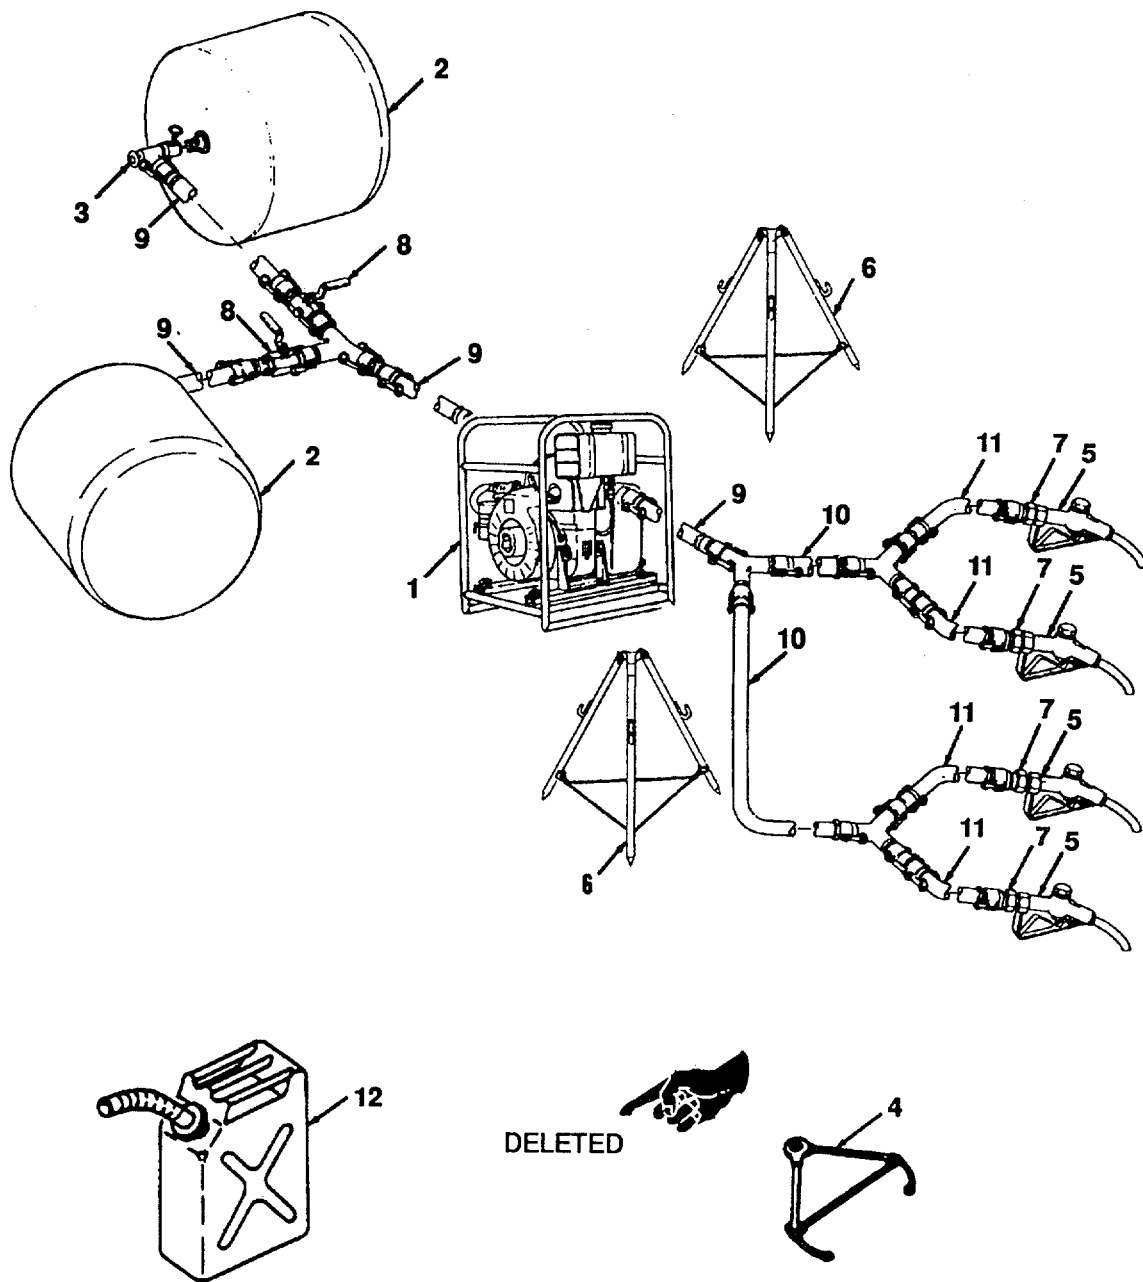

Figure 1-2. Location of Major Components.
1-10. LOCATION AND DESCRIPTION OF MAJOR COMPONENTS. The FAWPSS consists of the following major components shown on Figure 1-2.
1-12. THEORY OF OPERATIONS. The forward area water point supply system comprises a number of separate major components to store and dispense potable water. The principles of operation of each of these major components and how they work within the system are defined in the following paragraphs. (Refer to Figure 1-2.)
a. Potable Water Storage System. The FAWPSS uses two 500 gallon collapsible storage drums to store the potable water used in the FAWPSS. A typical layout of the FAWPSS is shown in Figure 1-2. Each of the collapsible fabric drums are equipped with an adapter assembly that allows the tank to connect to the other piping components of the FAWPSS.